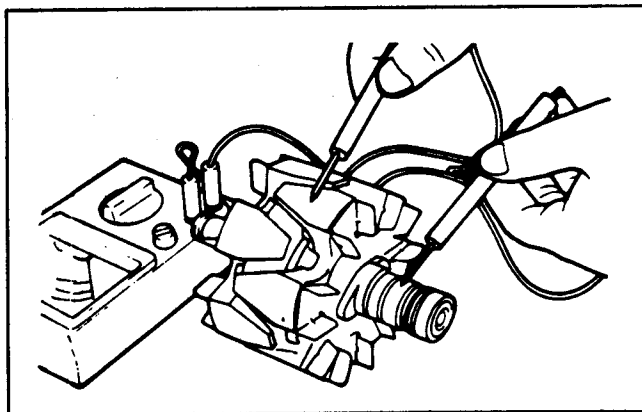

Figure 39
11. Check for continuity between a slip ring and shaft (core) (Fig. 39). Replace the field coil if there is continuity.